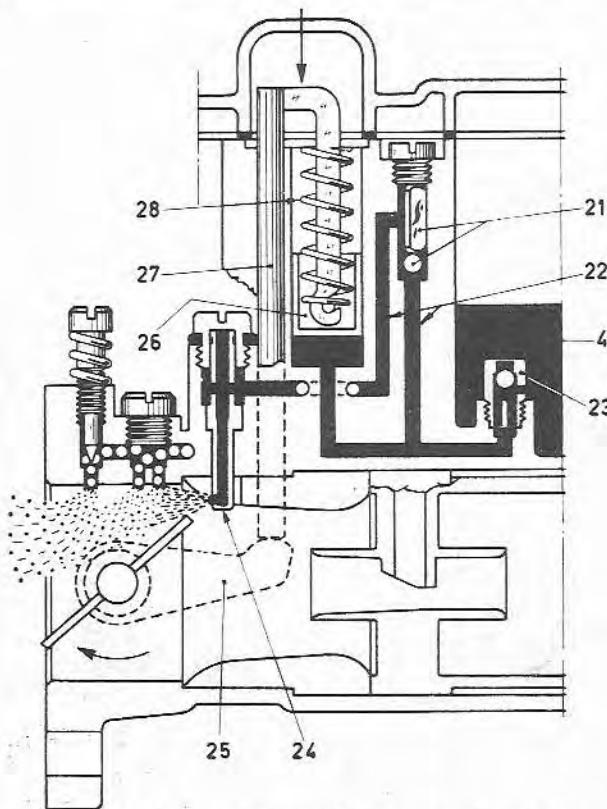

Fig. 11.10 Carburettor acceleration phase (Sec 3)
To provide the engine with a rich mixture when accelerating, the carburetor is equipped with an accelerator pump. Reference to Fig. 11.10 will show that when the throttle valves are closed, the lever (25) will lift the operating rod (27) against the pressure of the spring (28) and the piston (26) will draw fuel through the intake valve (23), along the channel and into the piston chamber. When the throttle valves are opened, the lever (25) allows the operating rod (27), together with the piston (26), to move down the piston bore under the action of the spring (28). Fuel is therefore forced along the internal channels (22), past the delivery valves (21) and through the pump jets (24) into the carburetor throats. During the pump delivery, the intake valve (23) is closed by the action of the internal ball but a certain amount of fuel is discharged back into the float chamber